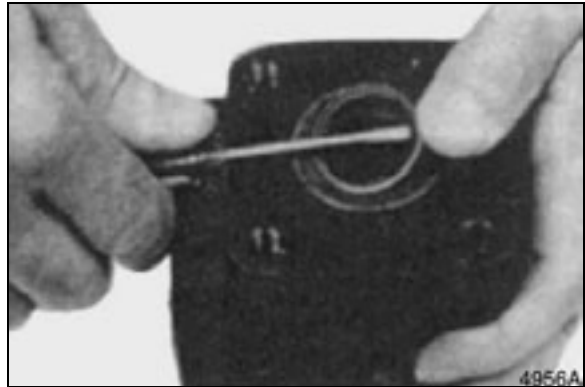

Figure 27
18. Remove dust seal from housing. See Figure 27. Remove O-ring and backup ring from inside housing.